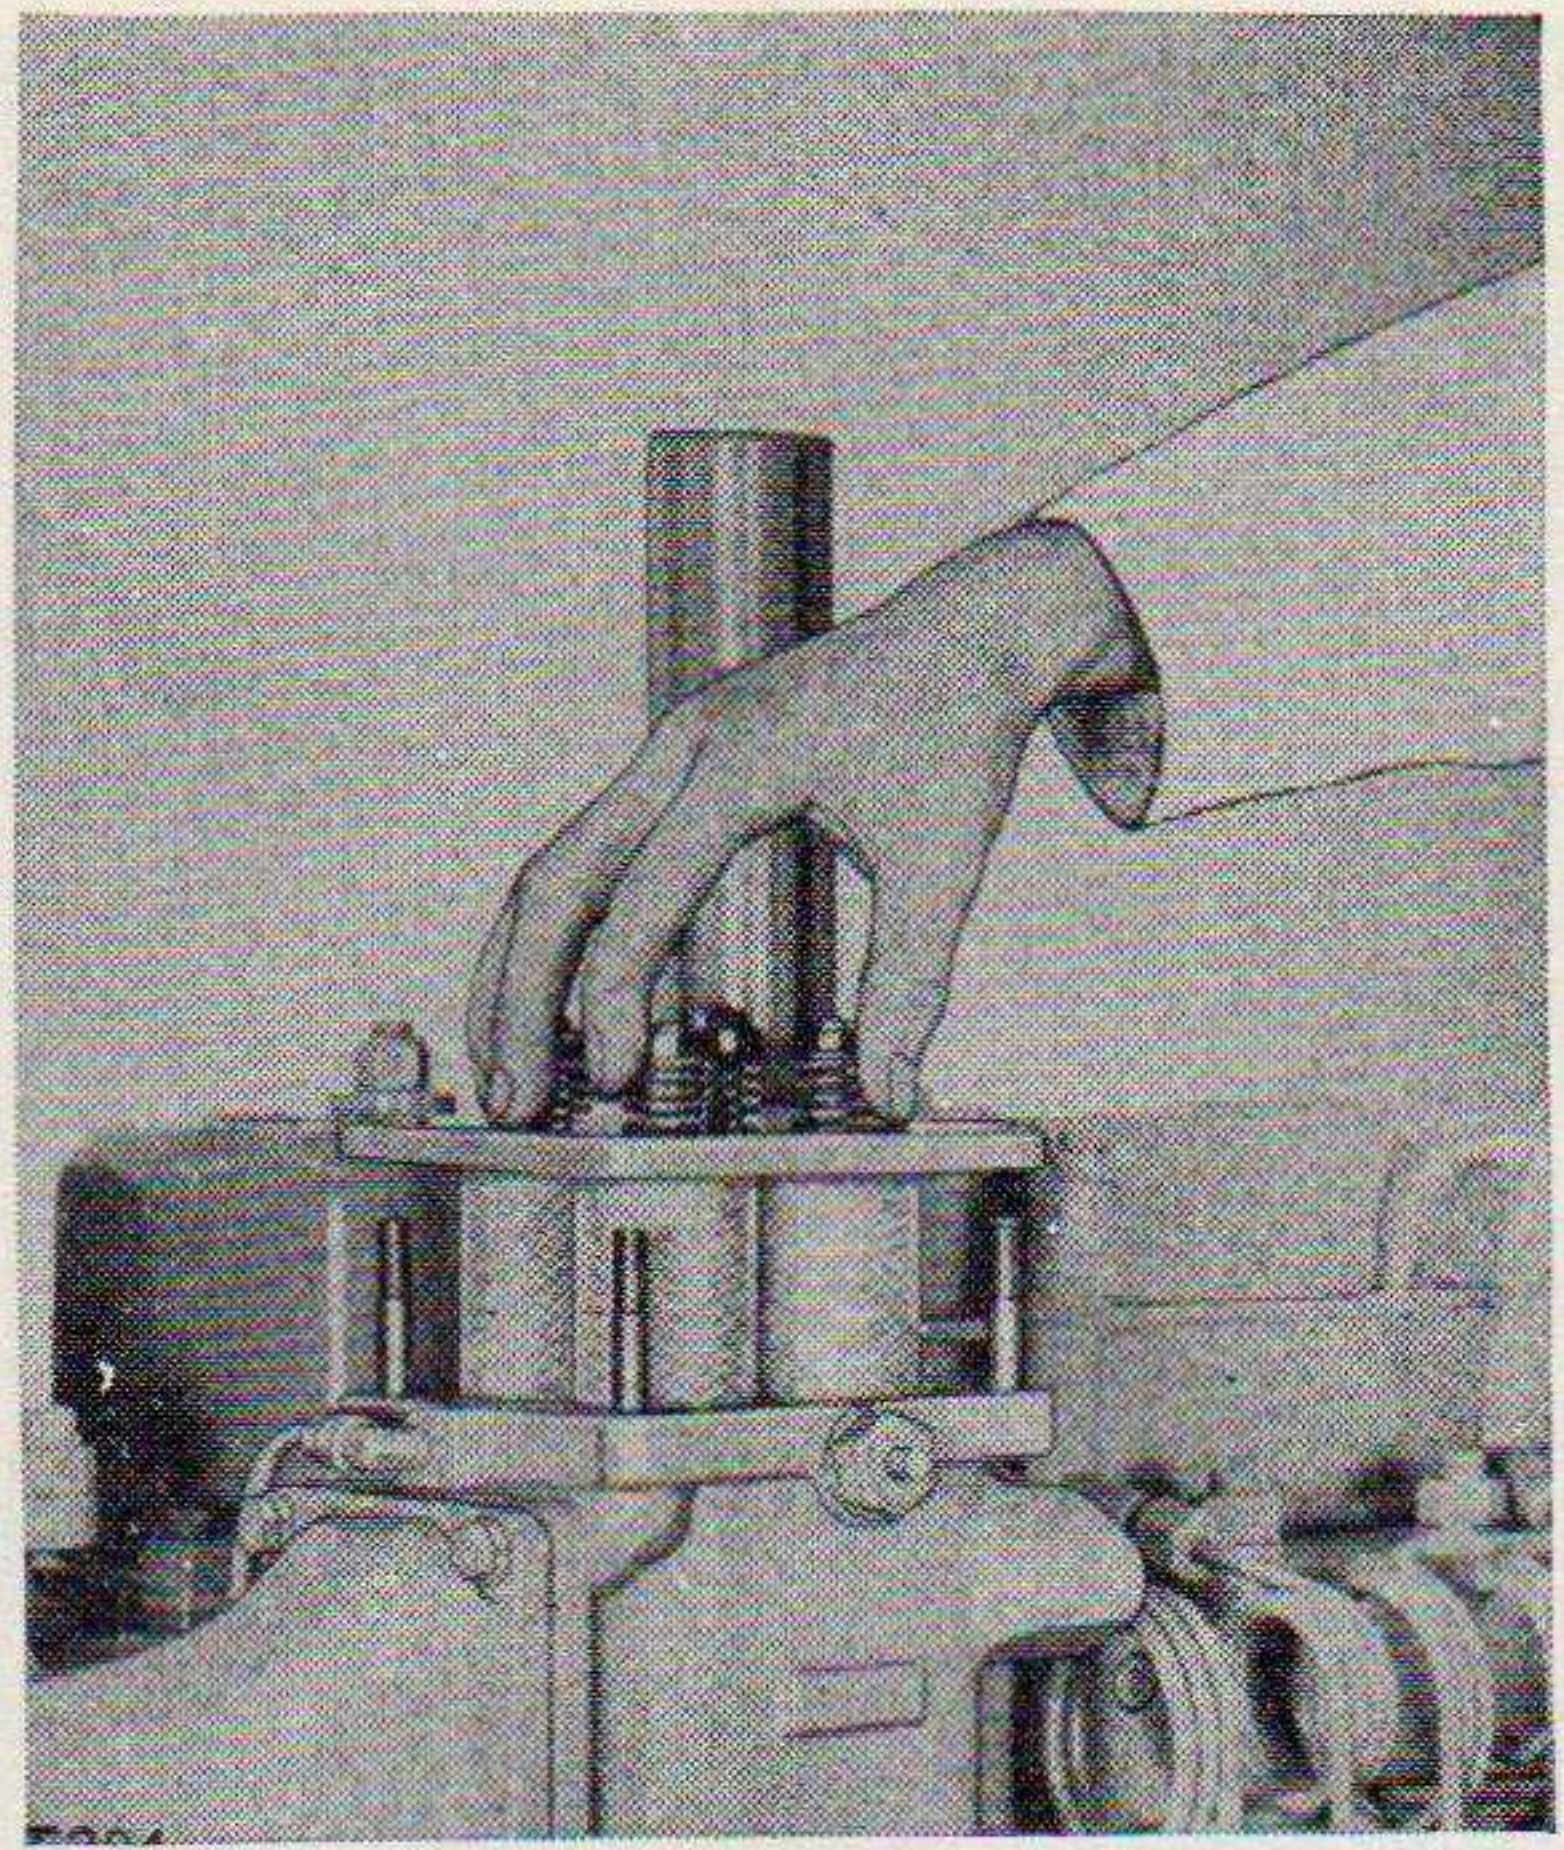

Figure 81. Lifting out filter element.
- (d) *Remove the filter assembly.* (See fig. 81.) Lift out the filter assembly and place it on a flat clean surface.